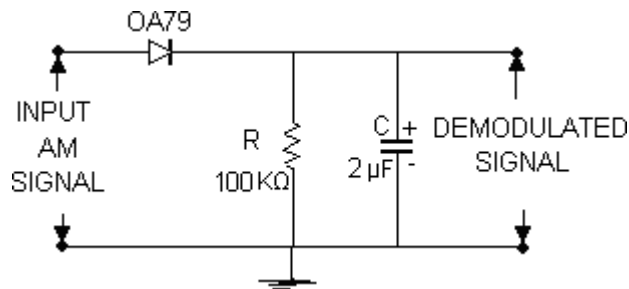

Fig.2.AM demodulator
9. Connect the circuit diagram as shown in Fig. 2.